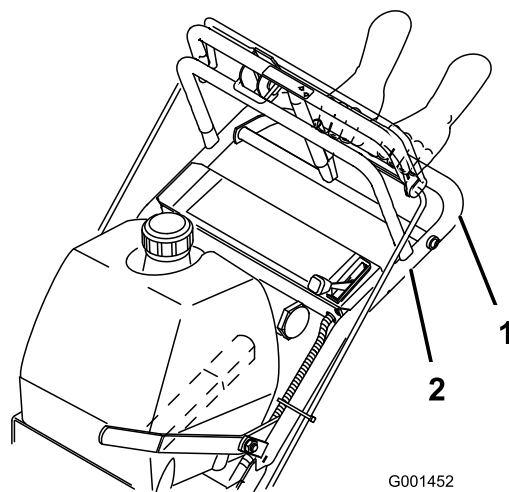

Figure 12
4. At the same time engage lower control bar and lift up on the lower handle (and Figure 12).